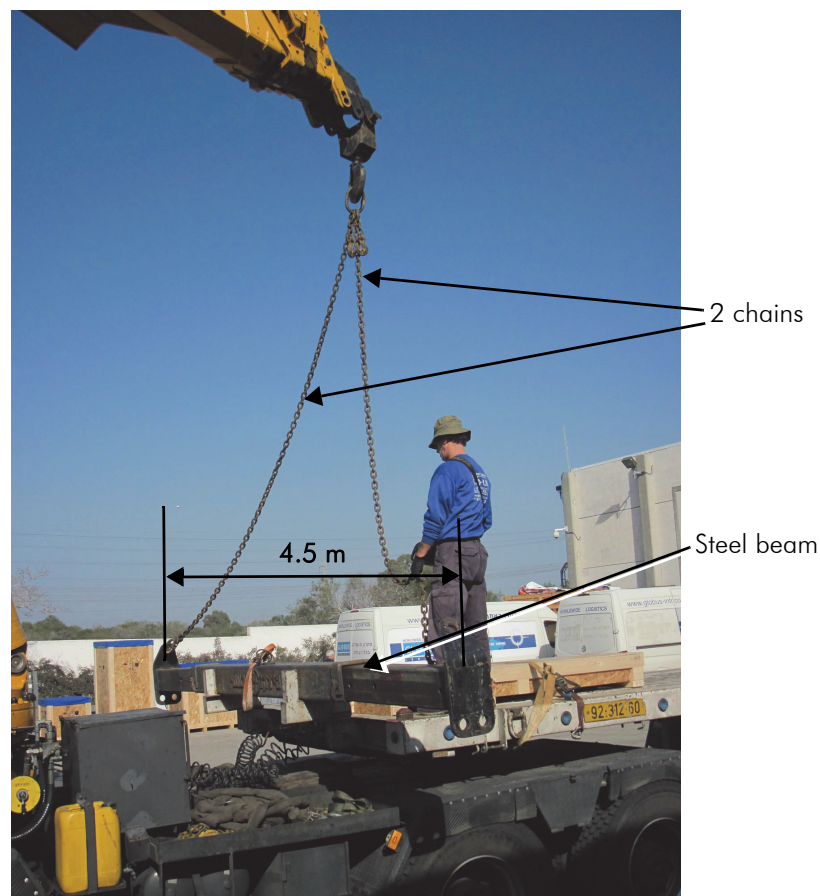

Figure 1-15 Crane Lifting Accessories – Steel Beam and Chain
- **Crane accessories** - including steel beam, chains, heavy duty straps, etc., as shown in Figure 1-15.